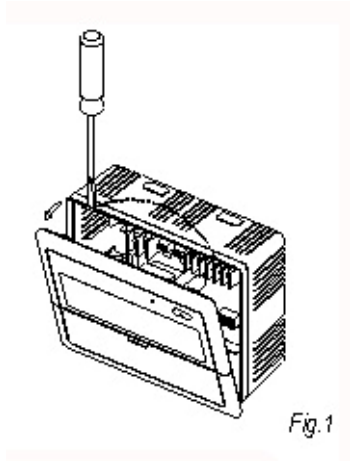
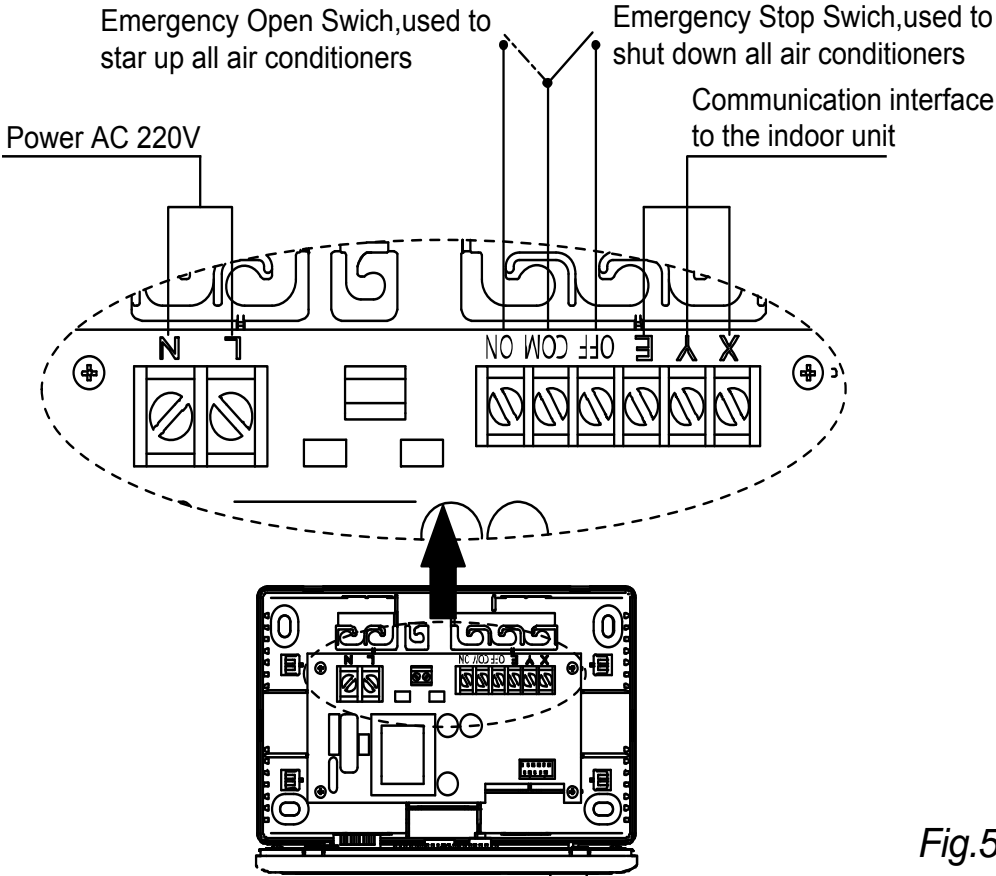

Fig.1
Fig.5
The installation procedure show in fig.1~Fig.5 is for MD-CCM09 (A), UL-CCM09 (A)/E and MD-CCM09/E (H)-A